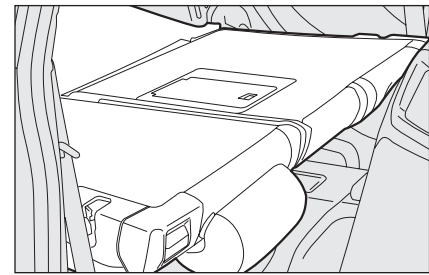
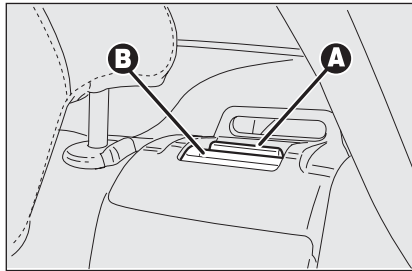

fig. 77
fig. 76
- raise backrest retaining levers **A-fig. 76** and tilt the backrests forward in order to obtain a single loading surface **fig. 77** (when raising lever **A** the "red band" **B** will appear).
- raise backrest retaining lever **A**-**fig. 76** and tilt the backrest forward (when raising lever **A** the “red band” **B** will appear).
***Make sure the backrest is properly secured at both sides (“red bands” B-fig. 76 not visible) to prevent it moves forward in the event of sharp braking causing injuries to passengers.***